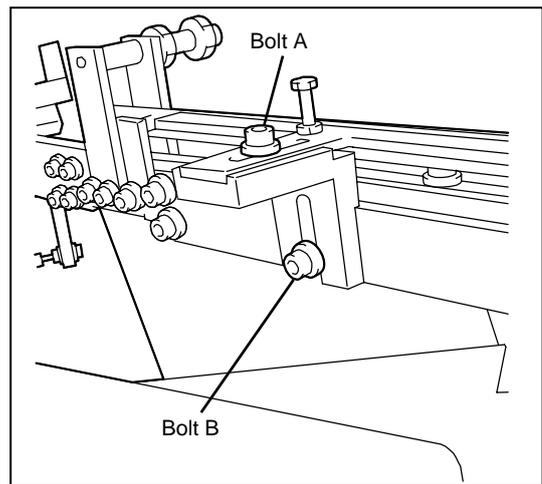

Fig. 1
- (1) Loosen the bolts A and B as shown in Fig. 1.